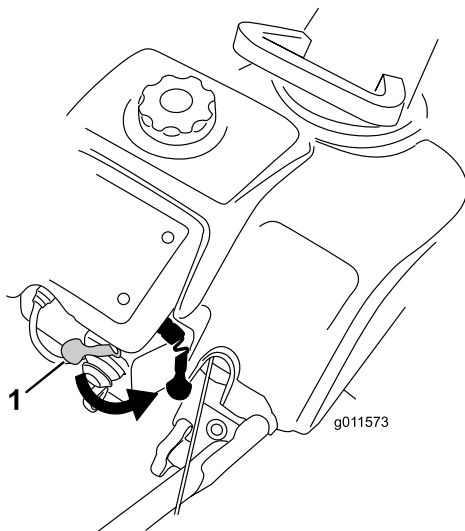
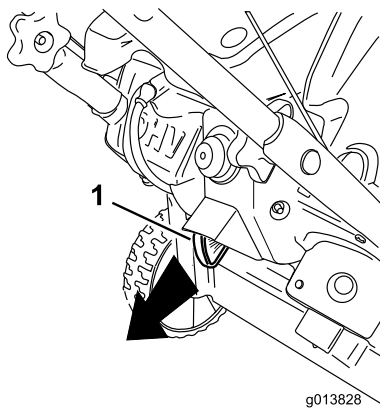

Figure 16
Figure 22
2. Move the choke lever fully to the right (Figure 16).
To stop the engine, pull the ignition key outward until it clicks into the Off position (Figure 22) or move the choke lever fully to the right (Figure 16).